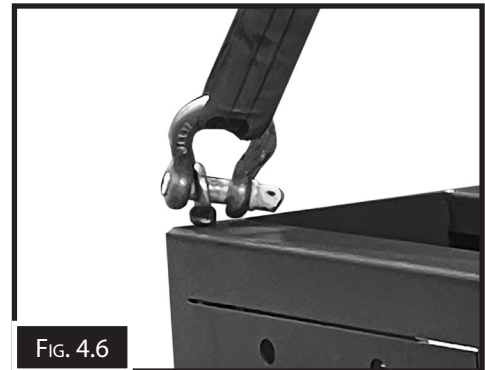

FIG. 4.6
1. Use an eye bolt (not supplied) through the lathe mounting holes and a shackle to attach to the sling. (Fig. 4.6)